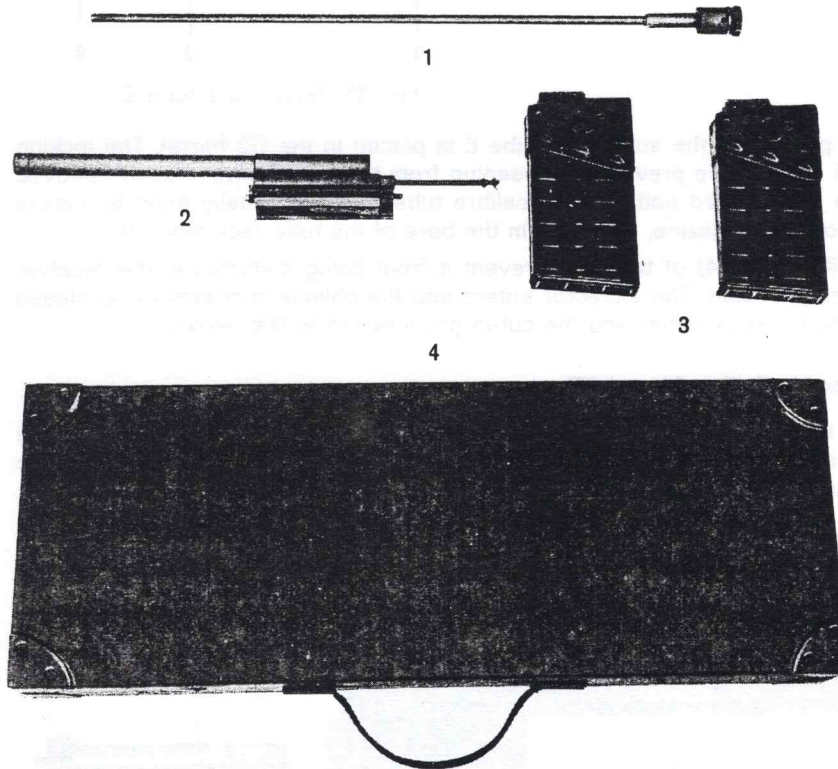

Fig. 32: Subcalibre conversion kit
(3) **Subcalibre conversion kit (Fig. 32)**